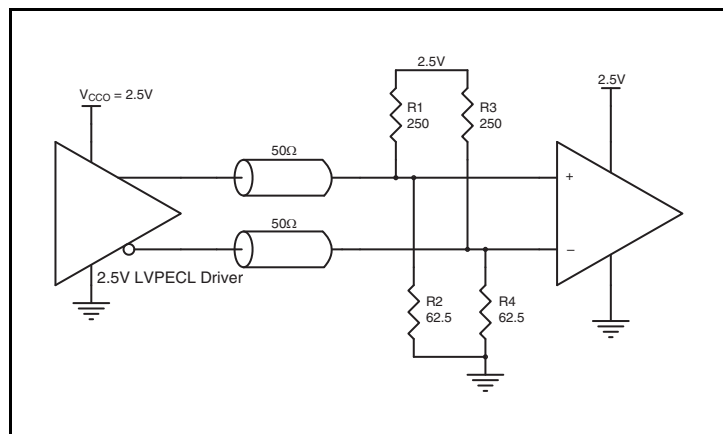
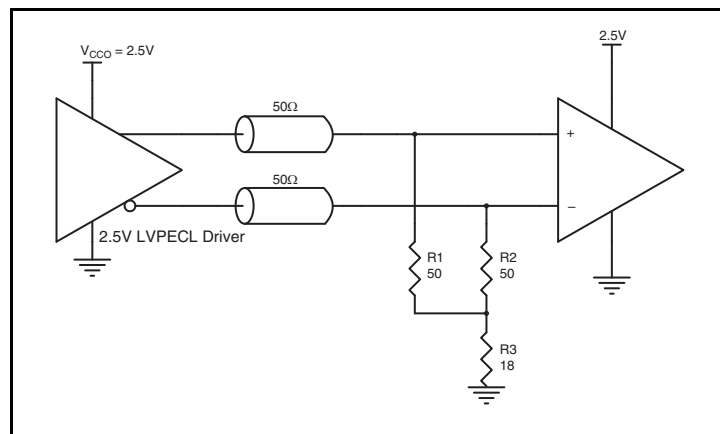
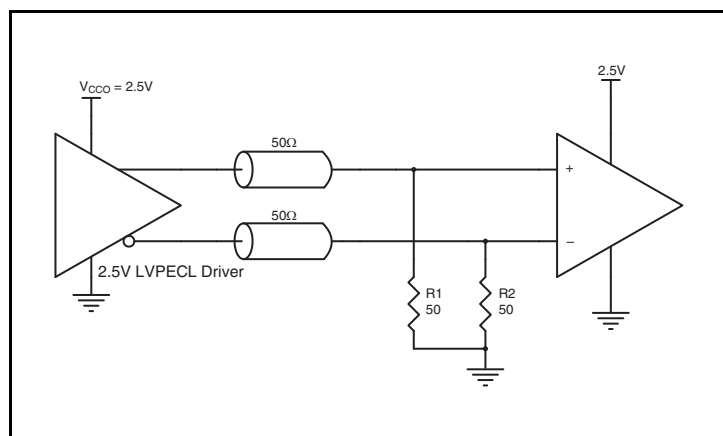

Figure 5A. 2.5V LVPECL Driver Termination Example
Figure 5B. 2.5V LVPECL Driver Termination Example
Figure 5C. 2.5V LVPECL Driver Termination Example
Figure 5A and Figure 5B show examples of termination for 2.5V LVPECL driver. These terminations are equivalent to terminating  $50\Omega$  to  $V_{CCO} - 2V$ . For  $V_{CCO} = 2.5V$ , the  $V_{CCO} - 2V$  is very close to
-LVCMOS ground level. The R3 in Figure 5B can be eliminated and the termination is shown in Figure 5C.